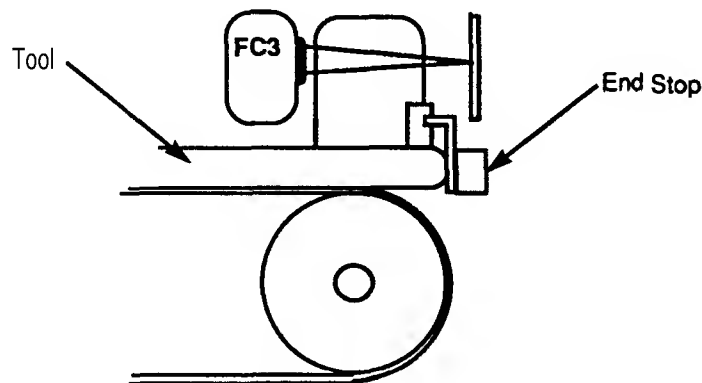

Figure 10B
- 1 Unplug the CAM MOTOR and CONVEYOR BELT **MOTOR** from PCB 106/A/B. Open S23 on PCB 103/A/B to disable the CAM MOTOR time **out**. Trigger FC 2 by breaking the beam with your finger. The FC 3 LED should **light**. Place the correct **TOOL** (see above) on the conveyor belt as shown in fig 10B. Make sure the **TOOL** is hard against the **END STOP** and the **RIGHT HAND CASSETTE GUIDE**. The FC 3 LED should go **Off**.